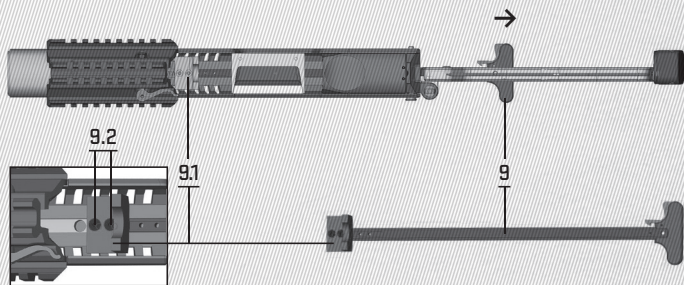

Fig 2 Glock 17 - set position
- Place the KPOS G2 upside down and pull back the Charging Handle (9) until the Slide Drawer (9.1) will be completely exposed within the KPOS G2 chassis.
- Holding the Charging Handle (9), unscrew the Slide Drawer's Screws (9.2) and remove the Slide Drawer (Fig.2).